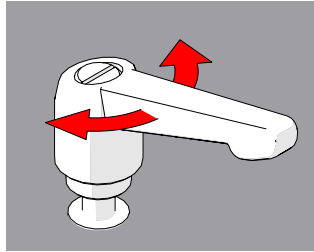

Fig. 63 - Rotate handle
2. Continue to pull while rotating the lever in the appropriate direction (Fig. 63).